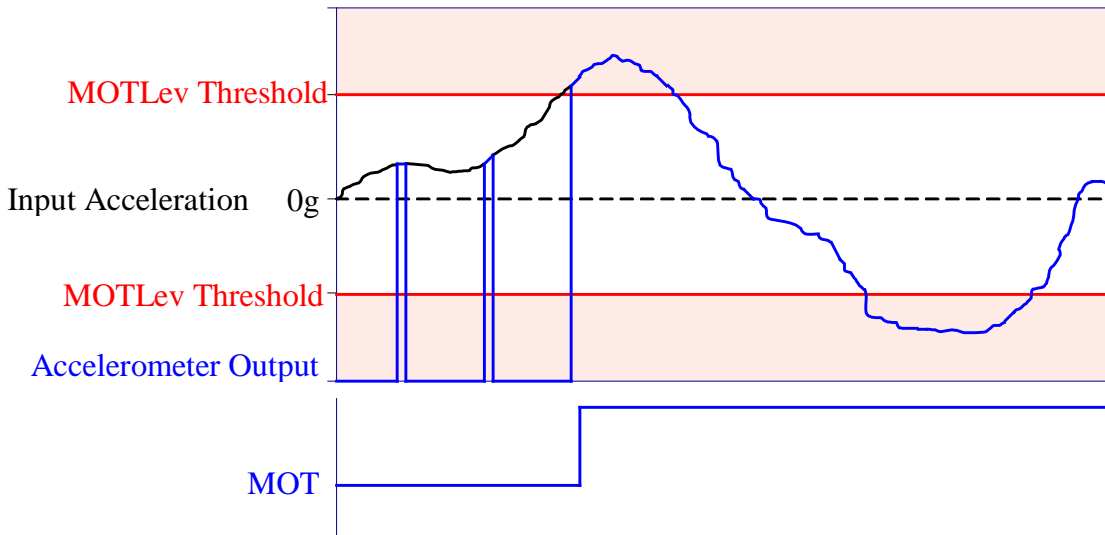

Figure 7 Latched Motion Wake Up Response
MOTLat = 1 - If MOTLen in CTRL_REGB is “1” and a motion event happens, the MOTI bit in CTRL_REGA will be set to “1” and the MOT pin (7) will be pulled high. The part will clear the MOTLen bit in CTRL_REGB and enter full-power mode. To re-enter low power motion wakeup mode, reset the MOTLen bit to “1”. Figure 7 shows the response of the KXSD9 as described above.